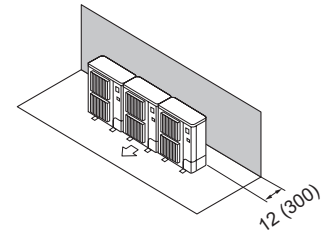

Fig. 2-12
- ① Obstacles at rear (Fig. 2-12)